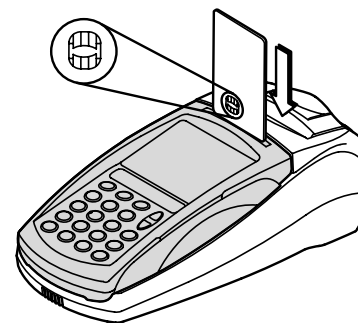

Figure B-1 Using the Smart Card Reader
1. Verify that the chip end of the Smart Card is fully inserted with chip side facing you. See **Figure B-1 "Using the Smart Card Reader"** on page 50.